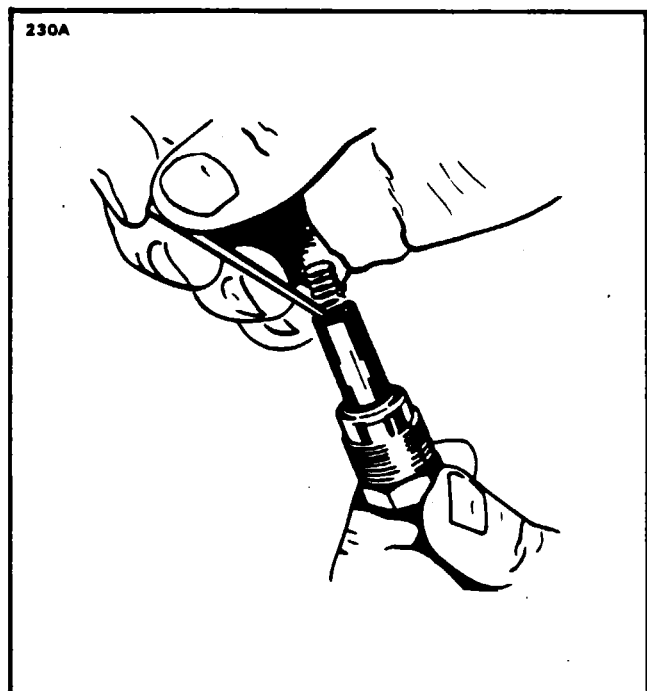

Figure 74-23. Removing Spring From Lead Assembly
1. Using a Bendix 11-7073 needle or a mechanical pencil with the lead retracted, hook the end of the contact spring as shown in Figure 74-23.